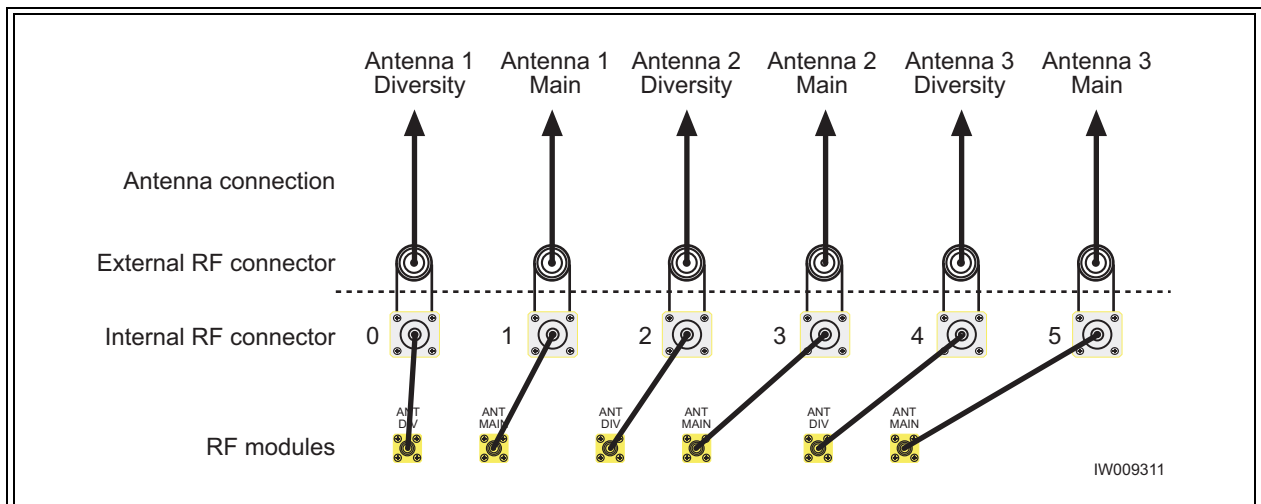

Figure 2-26 Antenna Cabling for S222 Configuration
- Connect your antennas as shown in Figure 2-26.